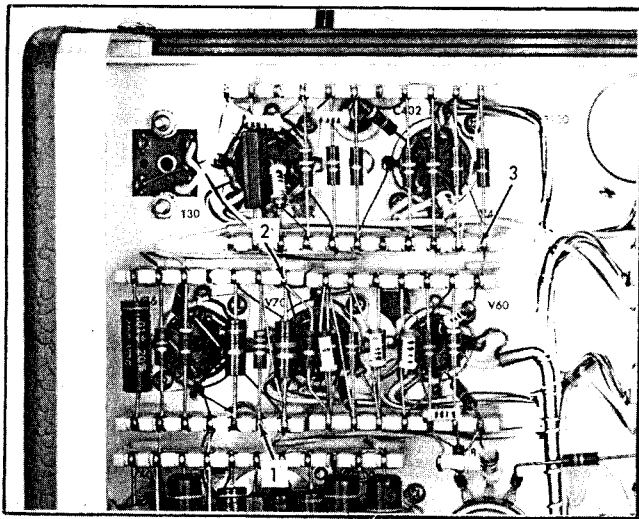
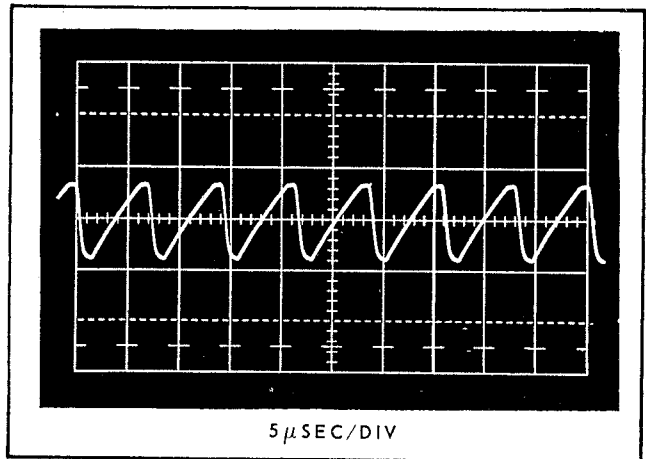
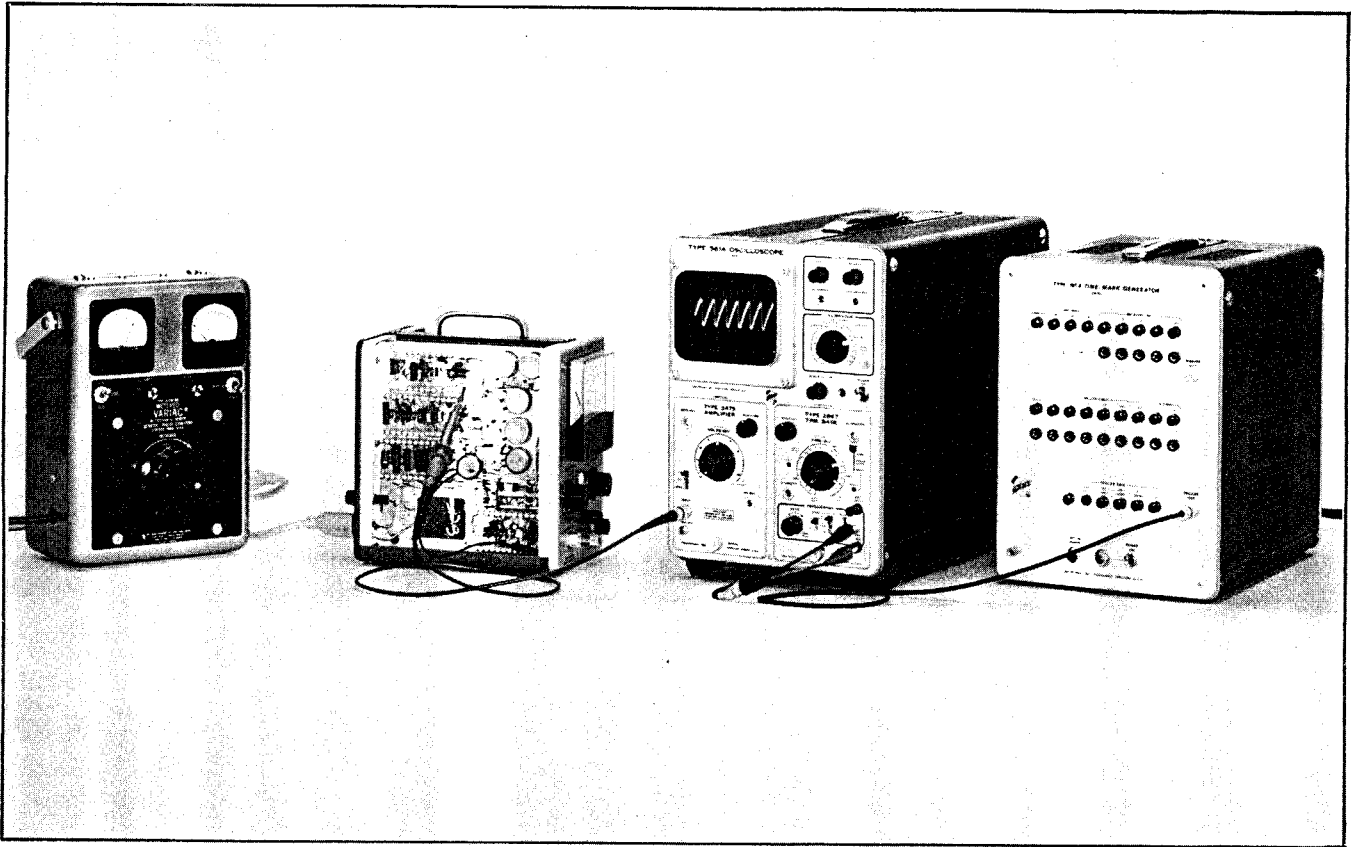

Fig. 6-3. Power supply test points No. 1 and No. 2. Fixed Oscillator test point No. 3.
Fig. 6-4. Fixed oscillator signal at test point No. 3.
Fig. 6-5. Step 4 test set-up for accurate adjustment of Fixed Oscillator frequency.
b. Measure the +270-volt supply voltage at test point #1 shown in Fig. 6-3. The supply voltage must be within the limits of +240 to +280 volts. With a meter equivalent to that stated in the Equipment Required list, the supply voltage must be within the limits of +240 volts plus the meter scale tolerance and +280 volts minus the meter scale tolerance.
c. Change the voltmeter selector switch to the 160 volt DC range. Measure the +150-volt supply voltage at test point #2 shown in Fig. 6-3. Vary the line voltage slowly from 105 to 125 volts. The +150-volt supply voltage must remain within 5% of 150 volts. With a  $\pm 1\%$  meter equivalent to that stated in the Equipment Required list, the supply voltage limits are from +144 to +156 volts on the meter scale.
and the probe tip to test point #1 shown in Fig. 6-3. With the line voltage at 117 volts RMS the 120 Hz ripple should be less than 12 volts peak to peak.
e. Connect the 10X Probe tip to test point #2 shown in Fig. 6-3. Vary the line voltage slowly from 105 to 125 volts. The 120 Hz ripple should be less than 1 volt peak to peak. If the ripple is greater than 1 volt peak to peak, check that the +150-volt supply load current is not greater than about 22 milliamperes by inserting a milliammeter in series with R403. If the load current is correct, change V403 and start back at step 2c.
c. Connect the 10X Probe tip to test point #3 shown in Fig. 6-3. Adjust the test oscilloscope triggering controls for a stable display similar to Fig. 6-4. The display should show exactly seven complete cycles in ten CRT major divisions. If other than seven cycles, adjust T30 screwdriver adjustable slug until the display is correct.
Connect the 10 $\times$  Probe tip to test point  $\equiv$ 3 shown in Fig. 6-3.
a. Connect the test setup shown in Fig. 6-5. The display will be a smear of the stable waveform shown in Fig. 6-4 if